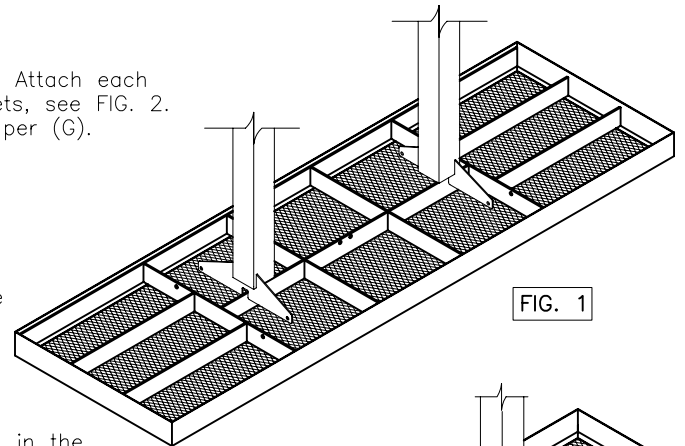

FIG. 1
Invert the (A) top so it's upside down on a flat surface. Attach both of the (C2) or (C4) to the inside of the top's mounting brackets, see FIG. 1. Use two, per each leg, (G) and (J) using two (I) and one (K) per (G). Draw the fasteners to a snug fit with wrenches.